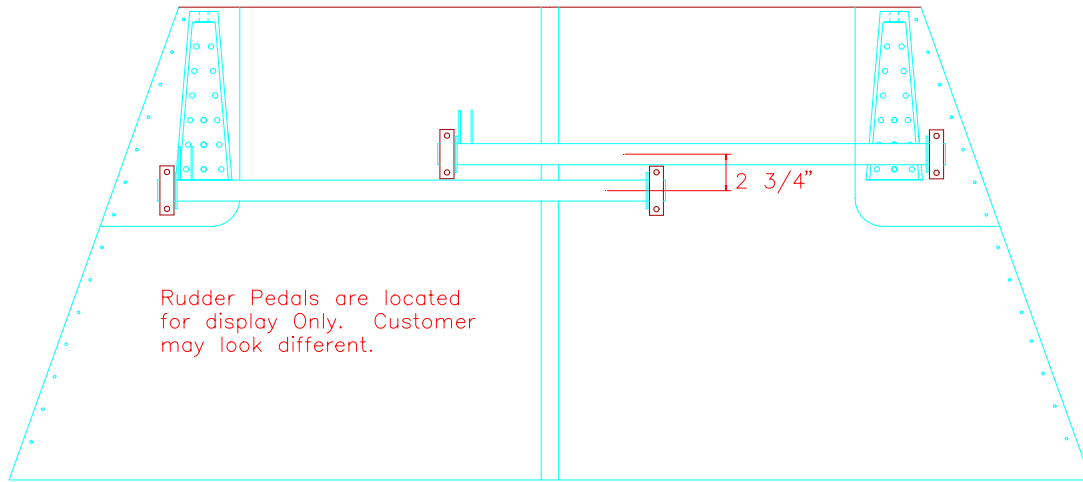

Figure 2
- 24) Position both pedal assemblies on the floor as in figure 2. Position pedals so that they are behind the engine mount brackets. Ensure that the Rudder Pedals clear the engine mounts. Also try to keep the center to center distance of the Rudder Pedals to 2 3/4".